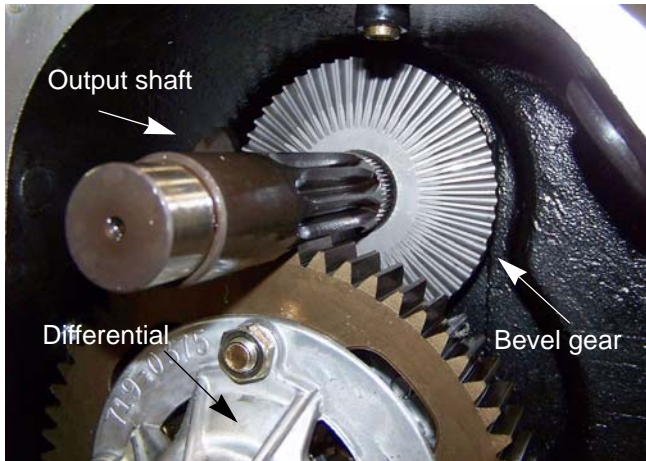

Figure 5.46
24. Grasp the differential assembly and the output shaft. See Figure 5.46.